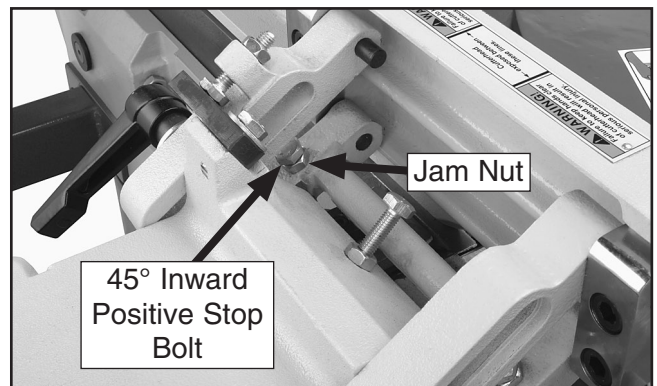

Figure 58. 45° inward positive stop bolt (one of two shown).
2. Loosen the jam nut on the 45° inward positive stop bolt shown in **Figure 58**.